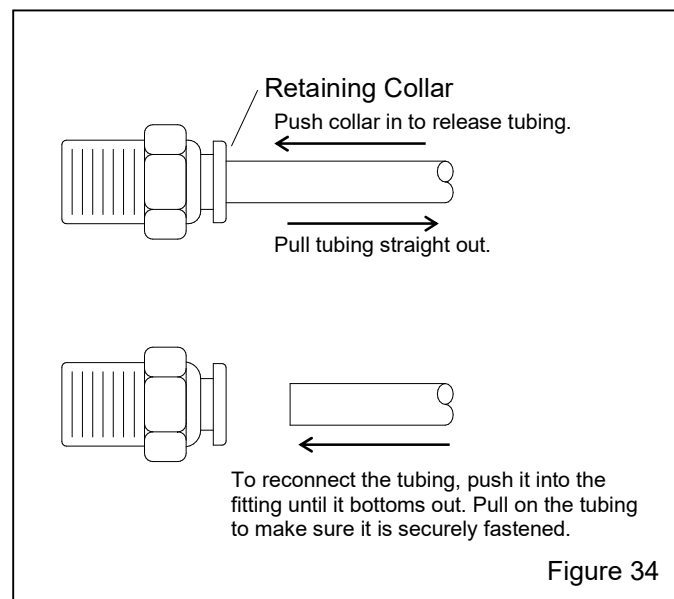

Figure 34
7.6 Using Tube-Lock Fittings – Figure 34